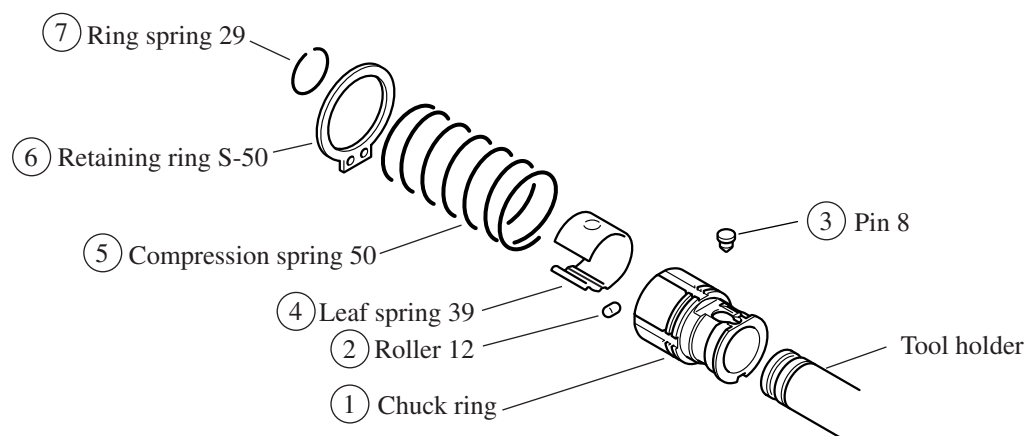

Fig. 11
4. Remove leaf spring 39 and pin 8 (see Fig.11)
with sliding down chuck ring. (see Fig.11)
1. Assemble the spare parts on tool holder in the order illustrated as per Fig.11.